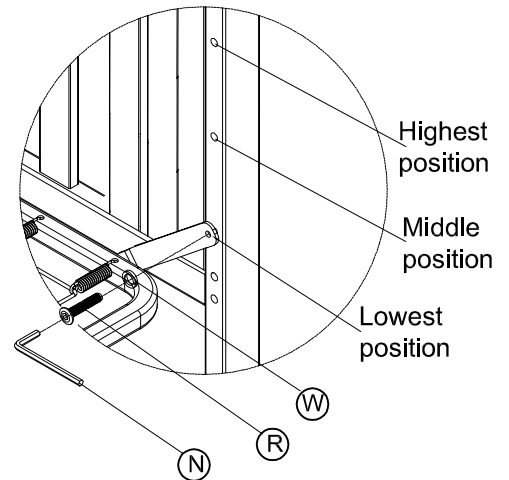

FIG.3.3
- Insert the 8 (eight) allenbolt 5/8"(15 mm)(R) into the exposed threaded holes on side frame as shown in FIG.3.3 & 3.4.
- Tighten all bolts with allenkey (N).